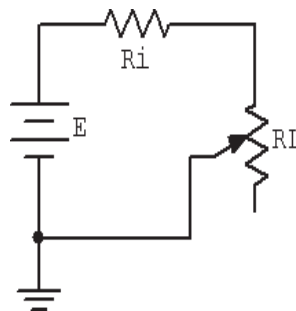

Figure 12.1
1. Consider the simple the series circuit of Figure 12.1 using $E = 10$ volts and $R_i = 3.3$ k. R_i forms a simple voltage divider with R_L . The power in the load is V_L^2/R_L and the total circuit power is $E^2/(R_i+R_L)$. The larger the value of R_L , the greater the load voltage, however, this does not mean that very large values of R_L will produce maximum load power due to the division by R_L . That is, at some point V_L^2 will grow more slowly than R_L itself. This crossover point should occur when R_L is equal to R_i . Further, note that as R_L increases, total circuit power decreases due to increasing total resistance. This should lead to an increase in efficiency. An alternate way of looking at the efficiency question is to note that as R_L increases, circuit current decreases. As power is directly proportional to the square of current, as R_L increases the power in R_i must decrease leaving a larger percentage of total power going to R_L .
3. Build the circuit of Figure 12.1 using $E = 10$ volts and $R_i = 3.3$ k. Use the decade box for R_L and set it to 30 ohms. Measure the load voltage and record it in Table 12.2. Calculate the load power, total power and efficiency, and record these values in Table 12.2. Repeat for the remaining resistor values in the table.